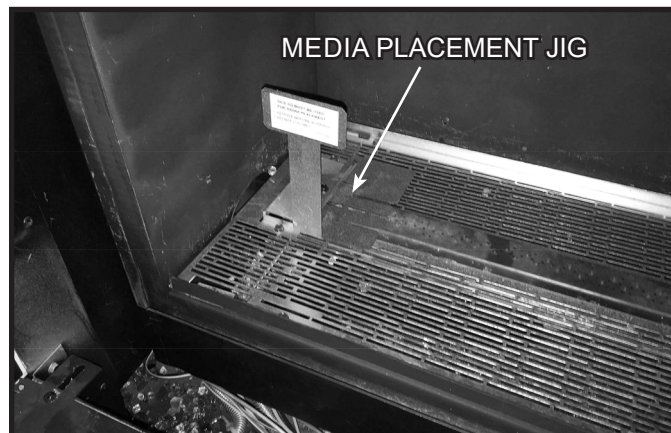

Figure 1. Media Placement Jig Location
1. The media placement jig MUST be used any time media are placed on the burner to ensure that there is no media in the burner lighting area. Verify that the media placement jig is correctly installed in place in the appliance. See Figure 1.